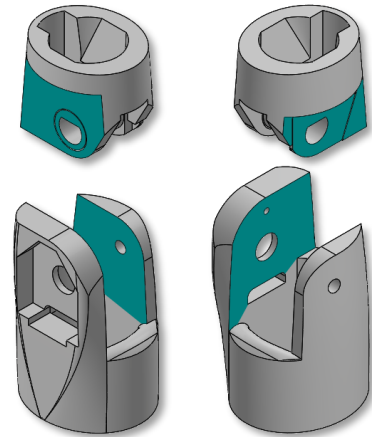
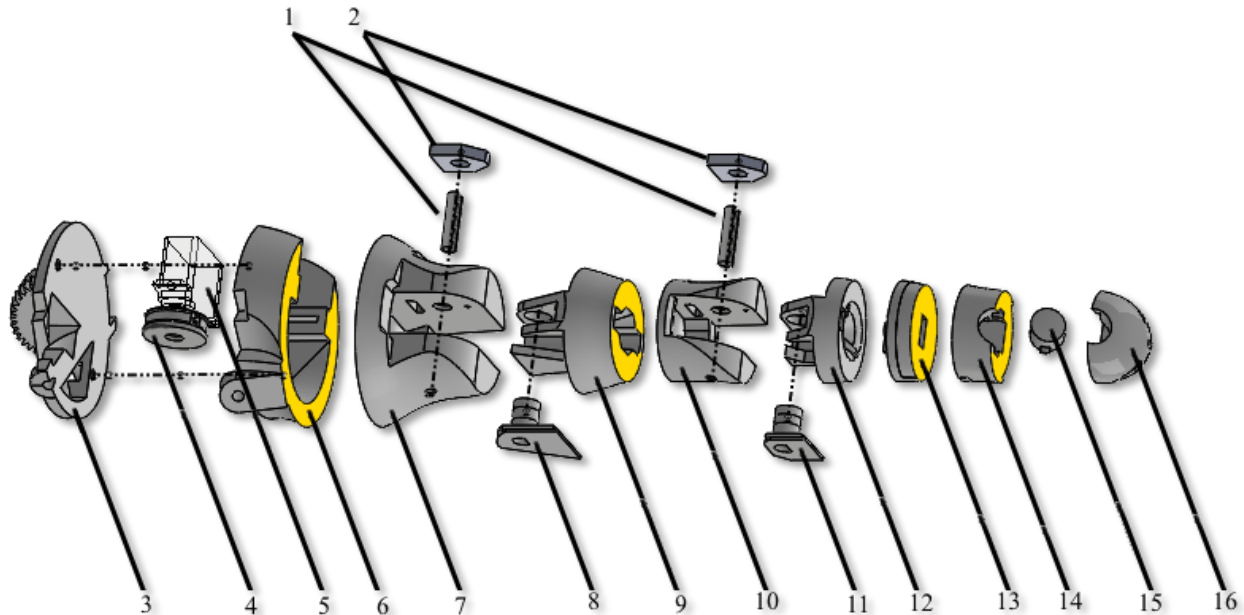

Figure 5: Sanding locations for finger joints
Figure 11: Thumb assembly diagram
2. **Finger Joints:** The outside faces of all XP – P Main and XP – P Pivot parts, as well as the inside faces of all XP – D parts should be sanded lightly with 120 grit sandpaper to ensure a smooth running fit between the parts. Figure 5 shows the locations that need to be sanded for the intermediate joint of the fingers. Proximal and distal joints will also need to be sanded. It is best to install the pivot parts in the main parts prior to sanding. Any surfaces that will be glued should also be sanded; refer to Figure 11 and Figure 15.
Assemble the thumb parts as shown in Figure 11. File or sand parts as necessary to achieve good fits.